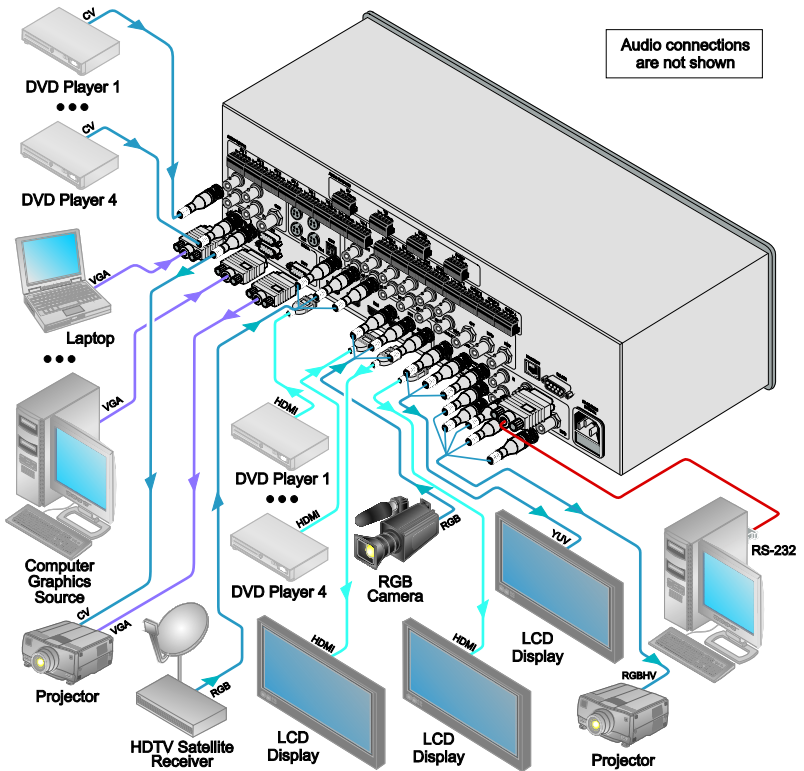

Figure 3: Connecting to the VP-725NA Presentation Switcher/Scaler
To connect the **VP-725NA**, connect the following to the rear panel, as the example in Figure 3 illustrates:
- Up to four s-Video sources to the 4-pin input connectors (not illustrated in Figure 3)
2. Connect one or more of the following balanced stereo audio sources (not illustrated in Figure 3):
- Connect the UXGA connector to the UXGA acceptor, for example, a monitor (not illustrated in Figure 3)
- 8. Connect the power cord (not illustrated in Figure 3).